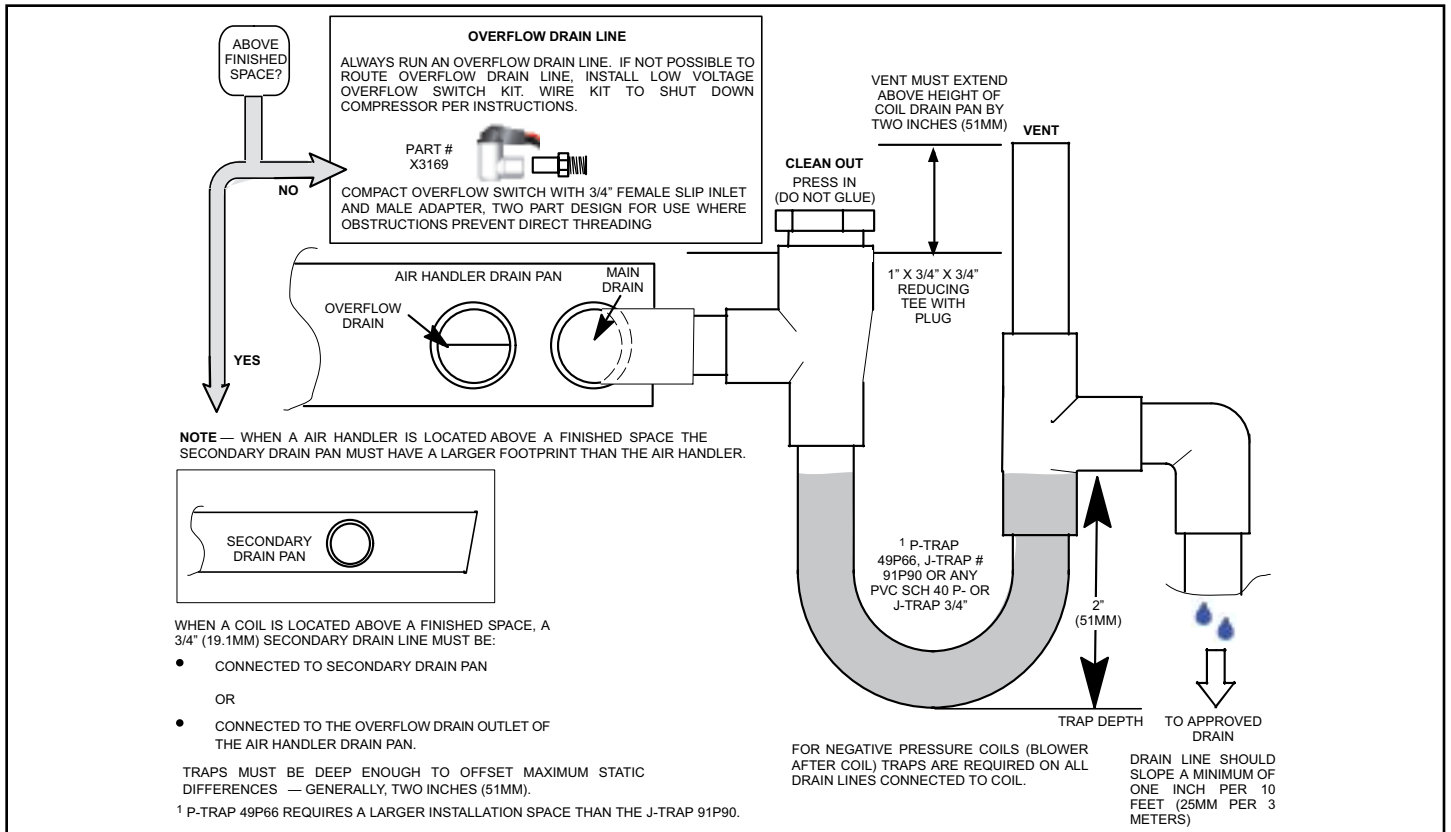

Figure 14. Typical Main and Overflow Drain
2. Install a 2" trap in the main (primary) drain lines as close to the unit as practical (see Figure 14). Make sure the top of the trap is below the connection to the drain pan to allow complete drainage of the pan.
NOTE: Horizontal runs must have an anti-siphon air vent (standpipe) installed ahead of the horizontal run. See Figure 14. An extremely long horizontal run may require an oversized drain line to eliminate air traps.